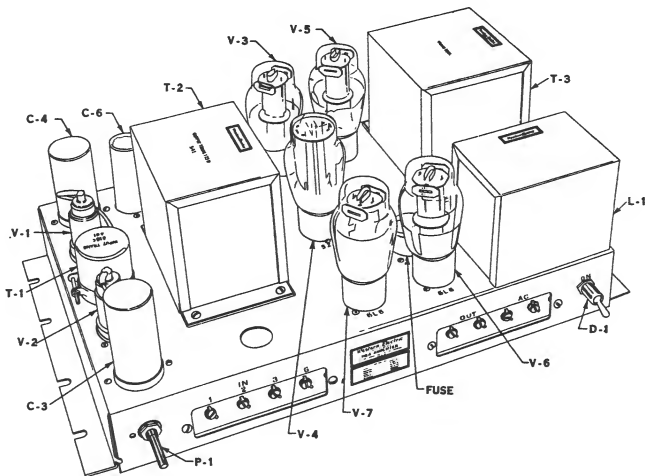

Fig. 2 - Top View of 118A Amplifier
4.07 In cases where a power output of 50 watts is not required and the a-c line voltage is less than 120 volts, satisfactory operation with a maximum output power of 25 watts may be obtained by removing two of the 6L6G type output tubes V5 and V6 (see schematic). These are the tubes located nearest the power transformer and the retard coil both of which are toward one end of the chassis. Equally satisfactory operation of the amplifier will result if tubes V3 and V4 are removed in place of V5 and V6. See Fig. 2 for tube locations.